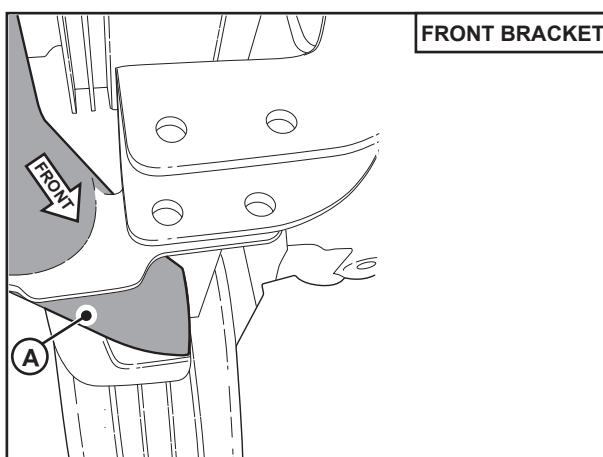

FIGURE 18
- Align the holes in the side step brackets with the holes on the mounting brackets ensuring that the side step brackets are in front of the vehicle mounting brackets as shown in Figure 18.